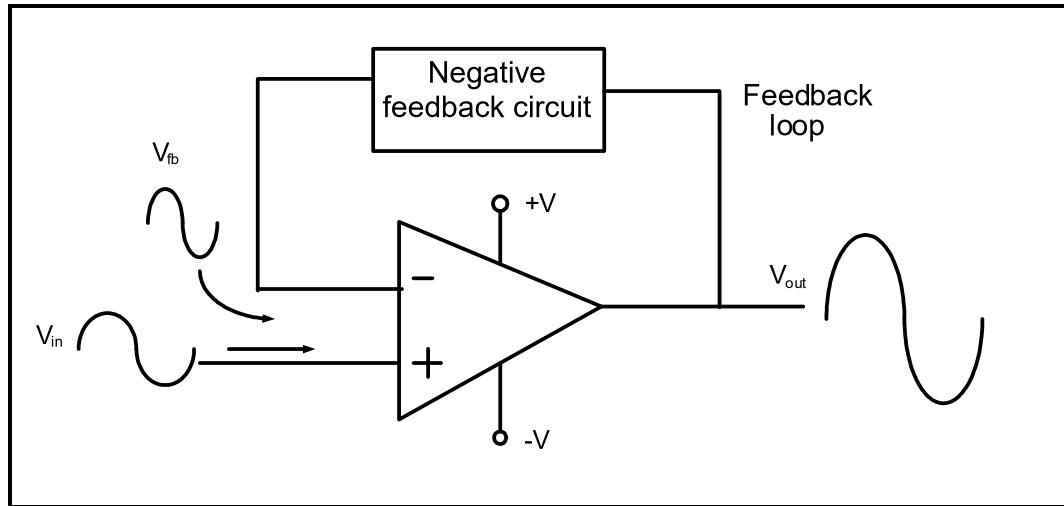

FIGURE 4.5: FEEDBACK OF OP AMP
4.5 Refer to FIGURE 4.5 below and answer the questions that follow.
4.5.2 Briefly describe the effect of the negative feedback circuit in FIGURE 4.5 above. (2)